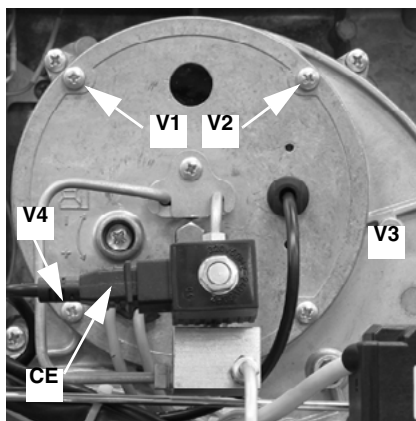

Fig. 53
- Remove the 4 screws **V1** - **V4** shown in Fig. 53.
- Reassemble the combustion head and tighten the 4 screws **V1 - V4** (Fig. 53).